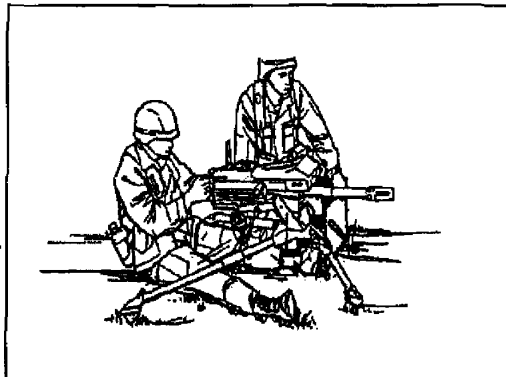

Figure 071-030-0004-1. Seated firing position, legs extended
(1) Legs extended. Extend your legs under the tripod (figure 071-030-0004-1).
(2) Legs crossed. Cross your legs and place your elbows on the inside of your thighs for support when firing the weapon (figure 071-030-0004-2).